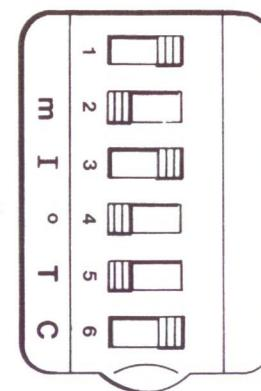

Fig. 3.6 Geodimeter 220 Switch Positions
A set of switches under the rubber cover on the left side of the instrument is used to adapt Geodimeter 220 to various measurement systems (see Fig. 3.6). The switches can be set by means of a pen, pencil or pointed object. Care should be exercised when changing the switch position.
- Set switch no. 6 under the rubber cover to C position (see Fig. 3.6).
- Set switch 6 to the normal position (see Fig. 3.6). The above adjustment is normally carried out at the factory and should therefore only be checked periodically.